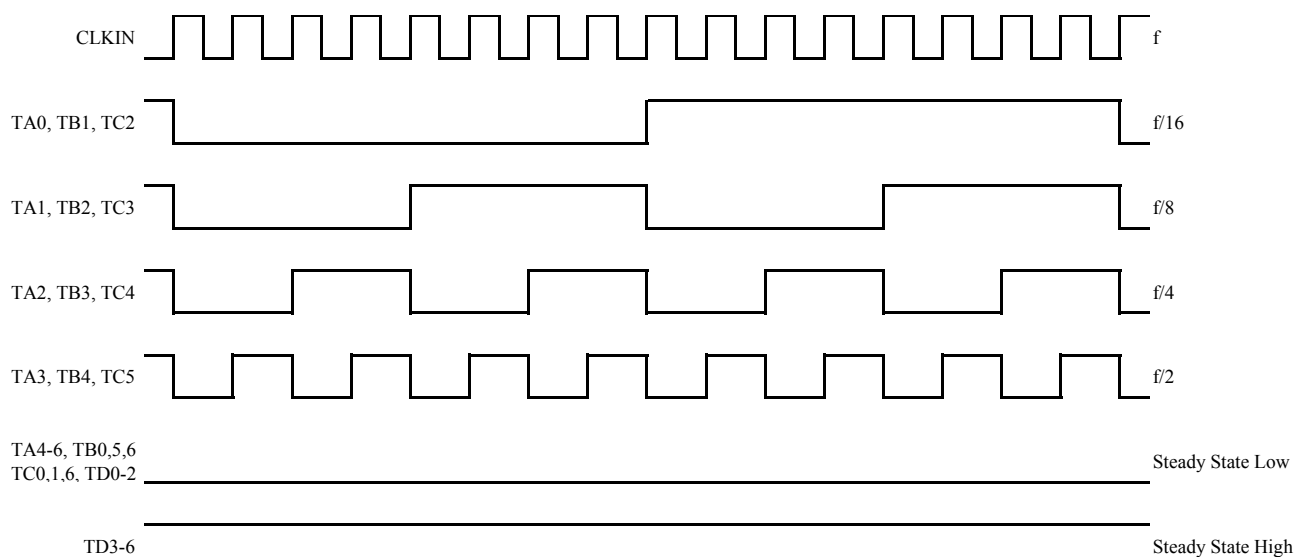

Fig.1 16 Grayscale Pattern
| I _{TCCW} | LVDS Transmitter Operating Current Gray Scale Pattern 16 (Fig.1) | RL=100Ω, CL=5pF, f=85MHz RS=VCC, (RS=GND) | 42 (34) | | mA |